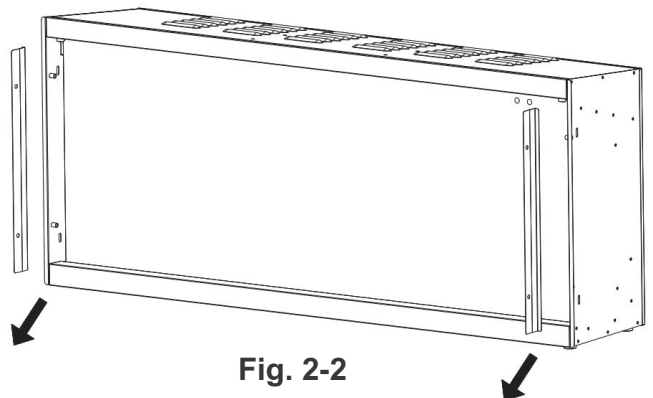
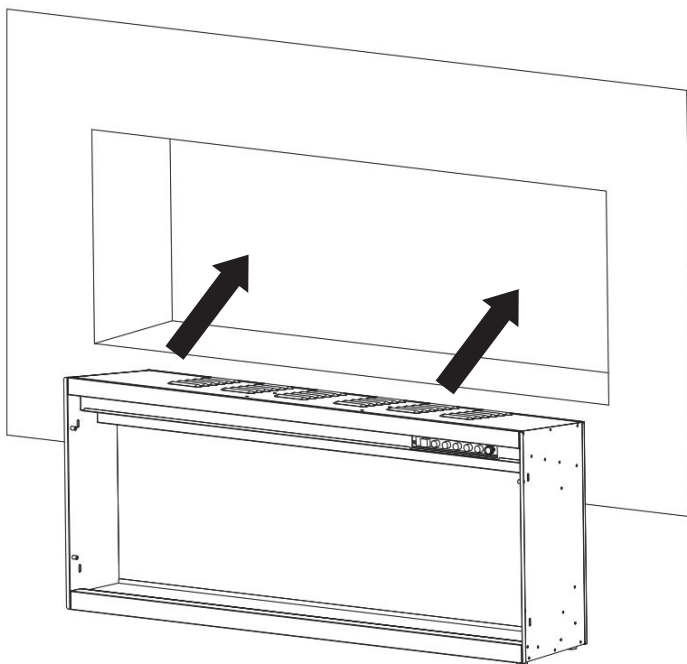

Fig. 2-2
Fig. 3-1
- Carefully take the metal bracket(s) away from the appliance. Place it face down on a soft, non-abrasive surface. (Fig. 2-2 )
B. Insert the fireplace into the rough-in frame and then secure it by installing 4 wood screws (B) through the holes (Fig. 3-1, Fig 2-2).